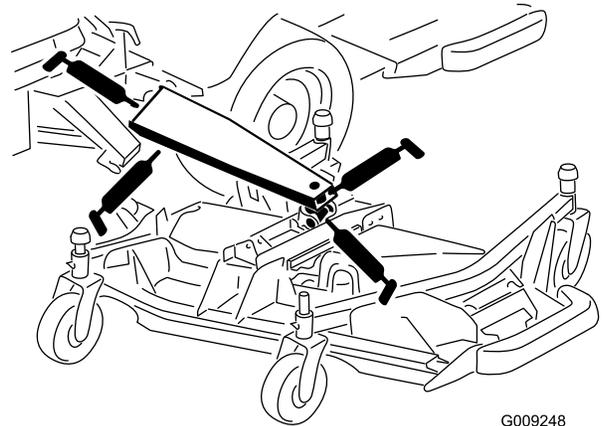

Figure 92
- 3 main lift-arm bushings (Figure 92)
- 1 lift-cylinder bushing (Figure 92)